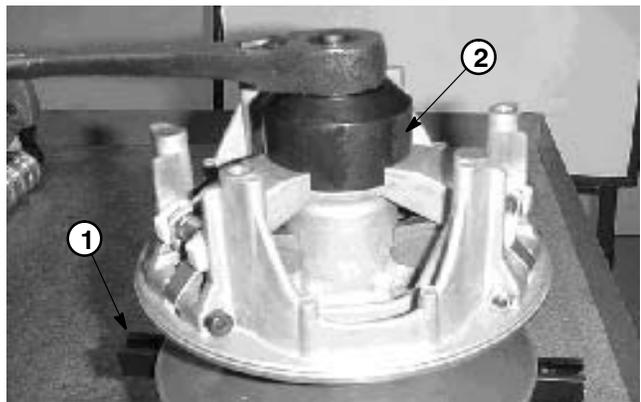

Figure 10
2. Use two 1/4–20 X 1" cap screws to secure the clutch holding bar (see Special Tools) to the drive clutch (Fig. 10).
5. Using spider removal spanner tool (see Special Tools), remove spider from the fixed sheave post (Fig. 10).